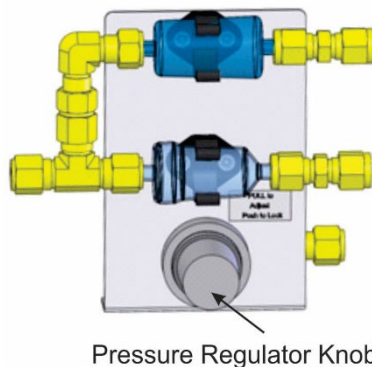

Figure 2-27. Output Pressure Regulator Assembly
The output flow rate must consider both the total gas flow requirements of all analyzers connected to the output manifold and the minimum output flow of the O₃ generator. Figure 2-27 shows a close-up of the regulator assembly.
3. Push the pressure regulator knob (Figure 2-27) back in to lock.